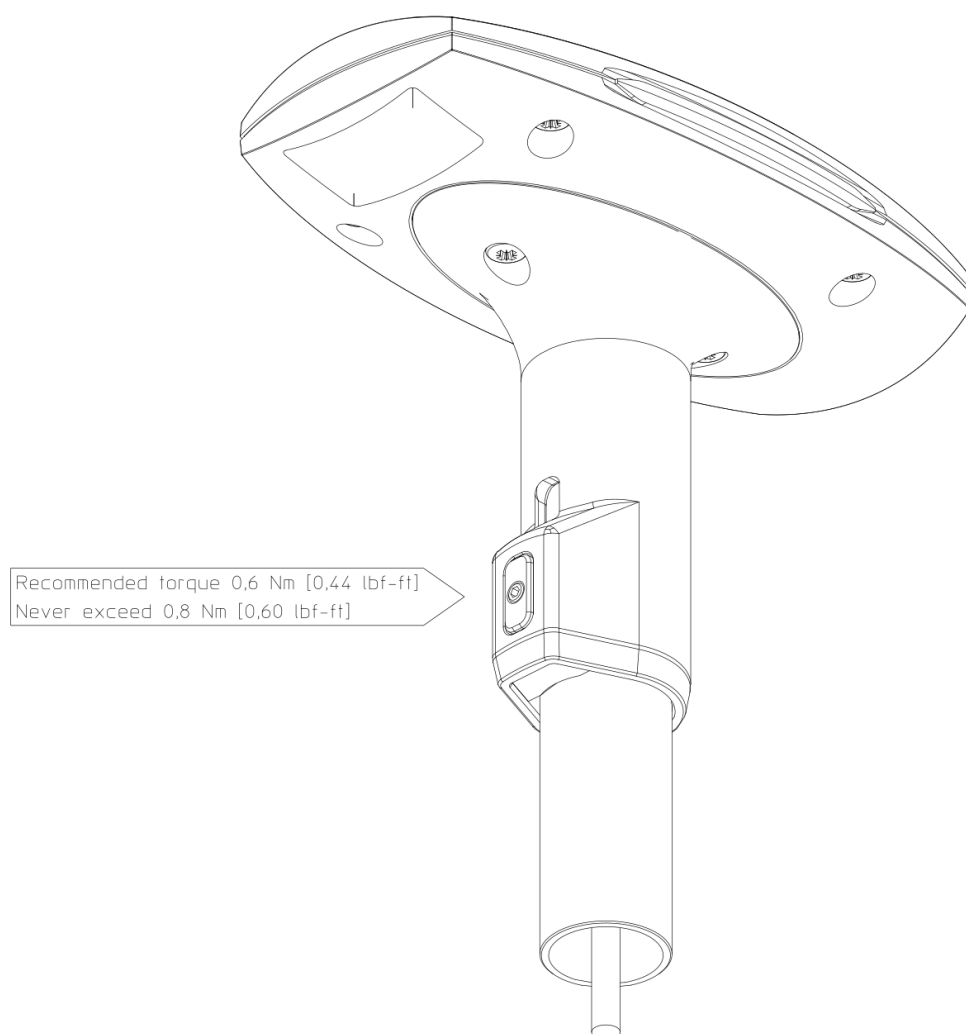

**FIGURE 17: POLE MOUNT INSTALLATION STEP 6 (SECURING THE TWO STAINLESS A4 SCREWS)**
**Step 6:** Fasten the pole mount by securing the two stainless A4 screws onto the LT-1000 NRU as illustrated in Figure 17.